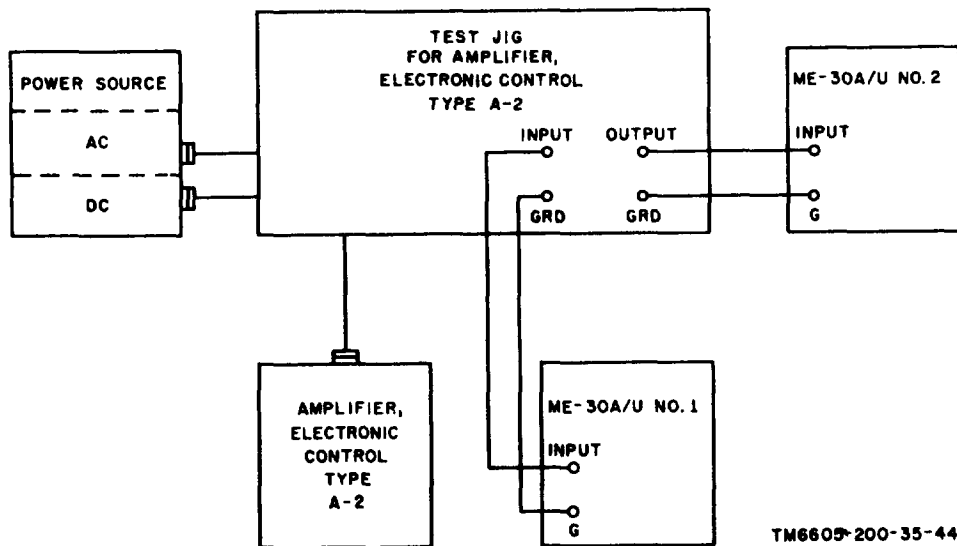

Figure 23. Test setup for final tests of Amplifier, Electronic Control Type A-2.
- (2) Connect the equipment as shown in figure 23.
- (3) Operate the test jig POWER switch to the ON position.
*Note.* If the test results in (4) through (9) below do not agree with the indicated test results, shut the equipment off, wait 2 minutes, and then resume testing at that step during which the inconsistent test result was obtained.
- (4) Note the readings on the DC VOLTS and AC VOLTS meters; they should indicate  $27.5 \pm 0.5$  volts dc and  $115 \pm 2$  volts ac, respectively.
- (5) Operate switch S1 to the AC position; the meter indications should be the same as in (4) above.
- (6) Operate switch S1 to the LEVELING position and the AC RANGE switch to the 50V position.
- (7) Note the reading on the AC VOLTS meter; it should indicate  $30 \pm 1.5$  volts ac. This is the amplifier output to the leveling torque motor for fast slaving.
- (8) Operate switch S1 to the FLUX VALVE position and note the reading on the AC VOLTS meter; it should indicate  $23 \pm 2$  volts ac. This is the flux valve excitation voltage applied from the amplifier to the flux valve during fast slaving.
- (9) Operate the POWER switch to the OFF position, switch S1 to the SLAVING position, and the AC RANGE switch to the 150V position. Wait approximately 2 minutes.
- (10) Operate the POWER switch to the ON position and start timer FM-103(1).
- (1) Connect the equipment as shown in figure 23.
- (2) Operate the power ON-OFF switches of the ME-30A/U's to their ON positions and wait the specified warmup time (TM-5132).
- (3) Operate the range selector switches on the ME-30A/U's to the 300-volts settings. Subsequent adjustment of the range selector switches will be necessary according to the indicated test results required in (4) through (17) below.